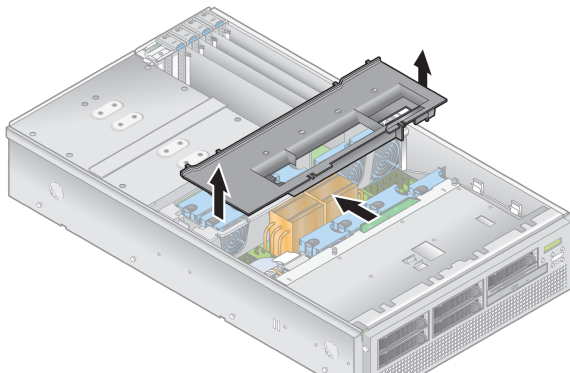

FIGURE 7 Removing the Main Air Baffle
1. Remove the main air baffle (see FIGURE 7).